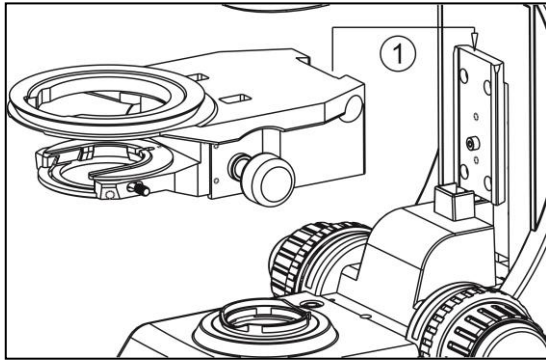
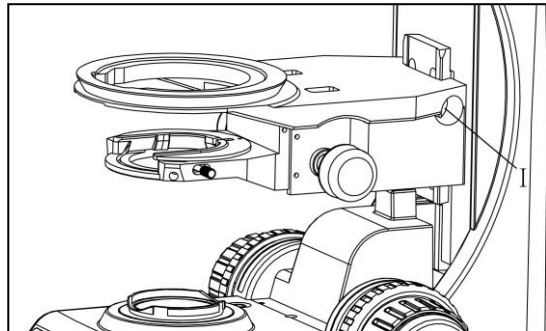

Fig 1
Fig 2
### 3.1 Open Power Source(fig.1)
## 4-2-1 Install the Mechanical Slide Bracket (fig 1, fig 2)
★ Install the platform bracket according to the path of ① in figure 1. The dovetail slot needs to align with the slot of platform bracket, sliding it until the screw fix it. Then use the hex wrench tighten the screw shown as I in figure 2.
★ Install the mechanical object stage according to the path of number ② in figure 2. First align the object stage's hole center and the bracket circle center, then object stage downward slides the bracket locating ring